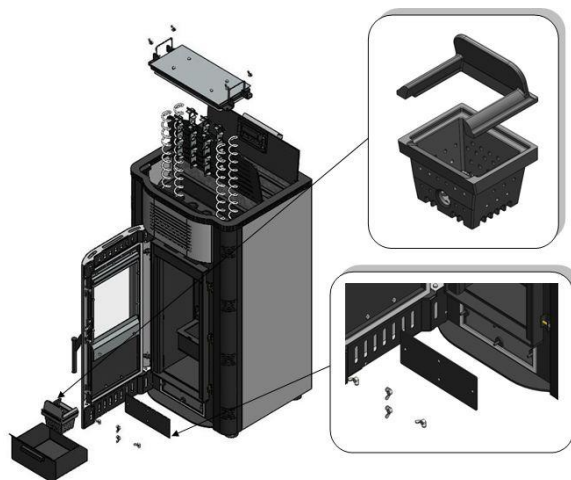

Figure 27. View of elements that are dismantled during the cleaning
- In every 3 to 7 days it is necessary to clean the space of combustion chamber (**figure 27**). Also it is necessary to clean the deposits on the walls of the firebox. By this we provide a better transfer as one millimeter layer of tar and soot decreases the conductivity by 5%.
- Once in a month it is necessary to open the top cover for cleaning, turbulators and then from the whole area of the boiler the tar and soot should be removed (**figure 27**). All that is removed in this way, can be collected and taken away through lower openings. Also during that period the inspection holes of the flue channels should be opened, which also need to be cleaned from soot and tar deposits, as well as from the ashes.